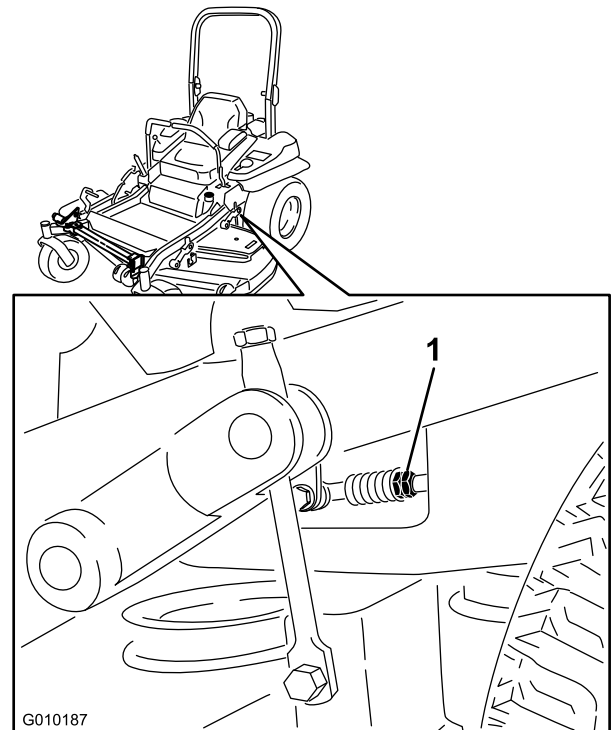

Figure 86
8. Adjust the pump-control rod lengths by rotating the double nuts on the rod in the appropriate direction until the wheels slightly creep in reverse (Figure 86).